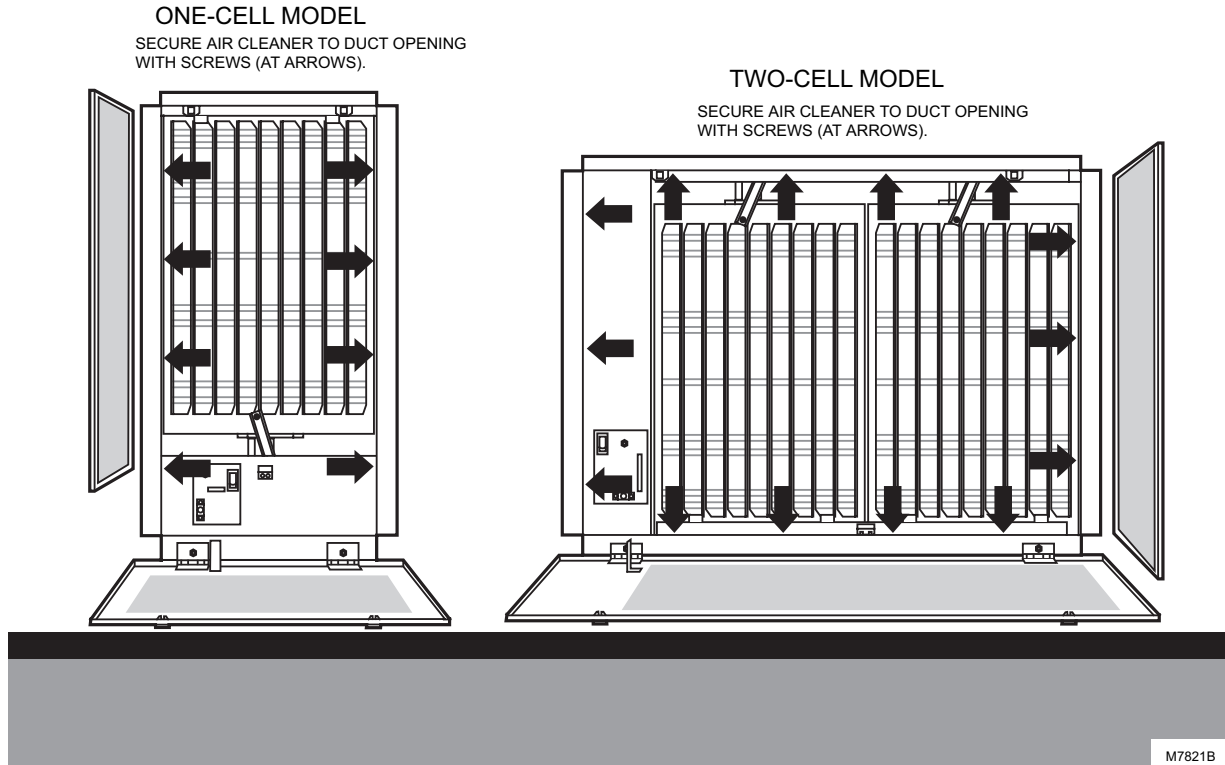

Fig. 8. Fasten air cleaner to duct with sheetmetal screws.
3. Fasten the air cleaner enclosure to the wall frame using sheet metal screws. See Fig. 8. Overtightening the screws can distort the enclosure and make it difficult to secure the door with the door latches.